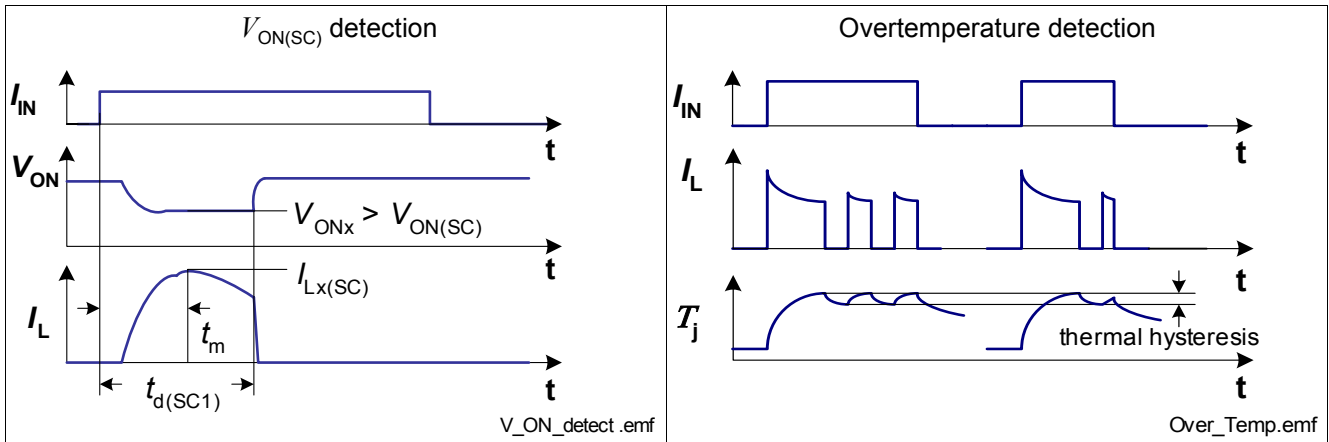
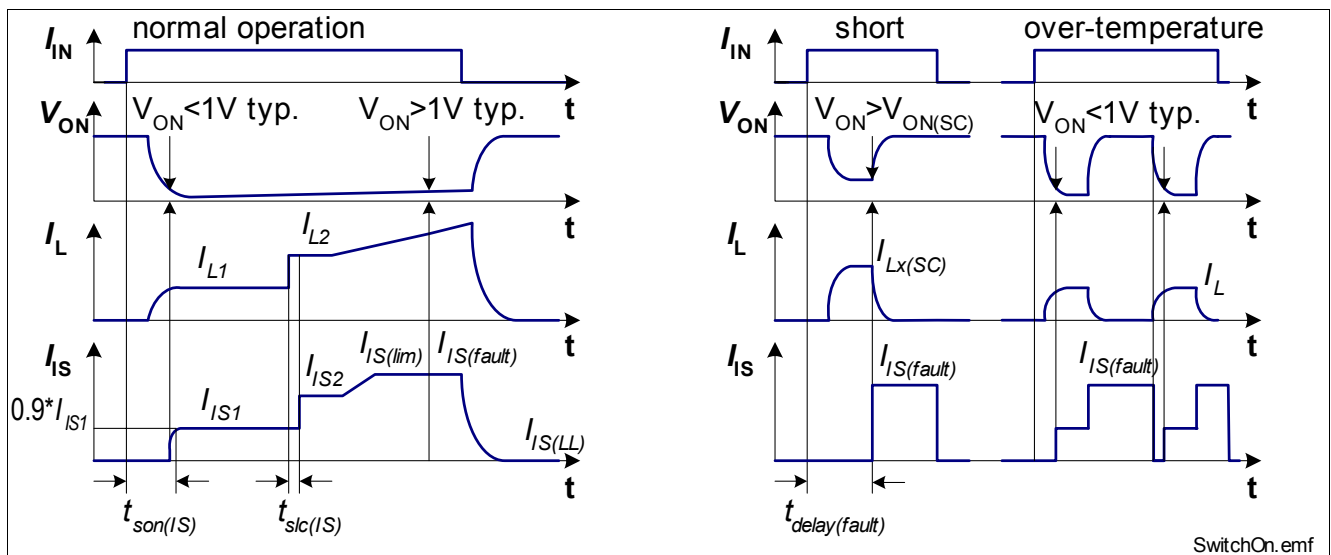

Figure 12 Overload Behavior
Figure 19 Timing of Diagnosis Signal in ON-state
In the event that either the short circuit detection via  $V_{ON(SC)}$  is not activated or that the on chip temperature sensor senses overtemperature before the blanking time  $t_{d(SC1)}$  expired, the device switches off resulting from overtemperature detection. After cooling down with thermal hysteresis, the device switches on again. The device will react as during normal switch on triggered by the input signal. Please refer to Figure 12 and Figure 19 for details.
- 2) Short circuit current limit for max. duration of  $t_{d(SC1)}$ , prior to shutdown, see also Figure 12.
Details about timings between the diagnosis signal  $I_{IS}$ , the forward voltage drop  $V_{ON}$  and the load current  $I_L$  in ON-state can be found in Figure 19.